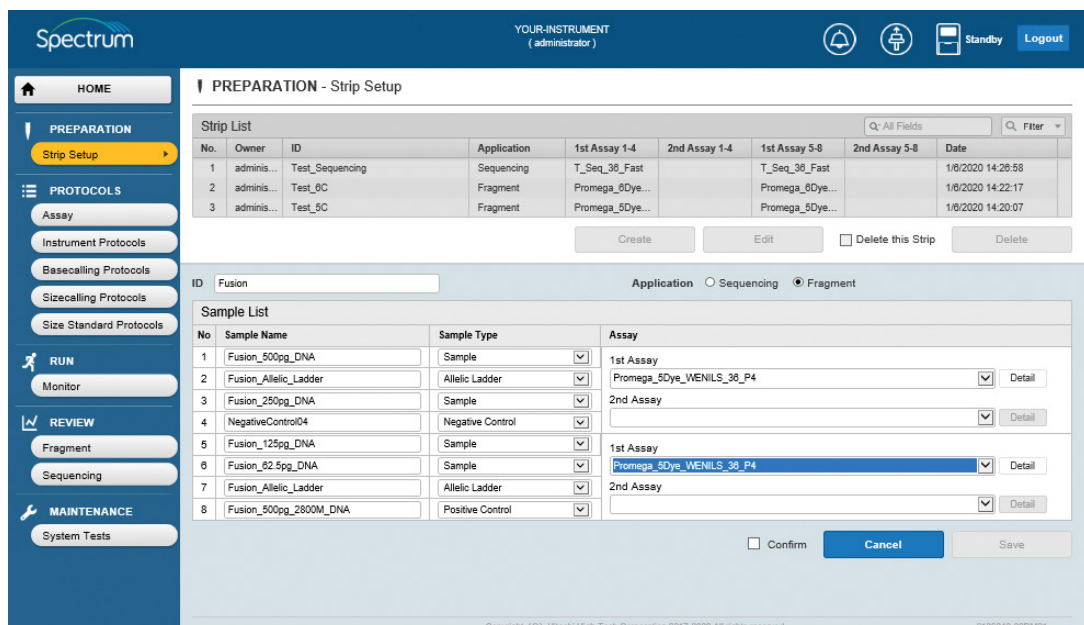
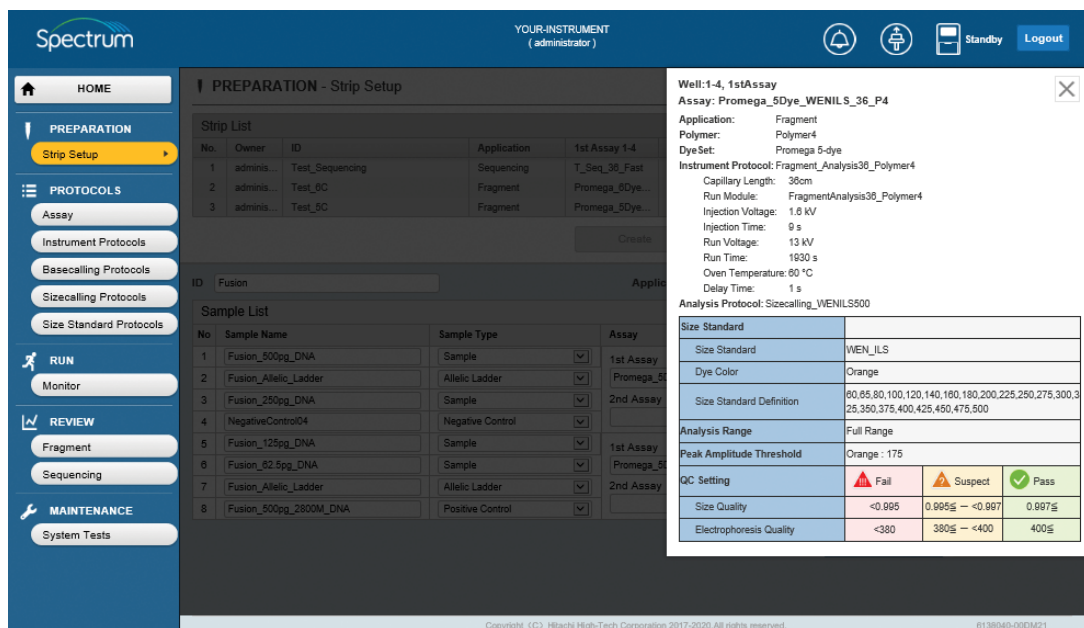

Figure 14. 'Strip Setup' screen: Selecting 1st Assay.
Figure 15. 'Assay Detail' screen.
2. Enter a Strip ID for the new strip by selecting the **ID** field to activate the cursor (Figure 14).
3. Select the application using the appropriate radio button (Sequencing or Fragment) (Figure 14).
4. Select Sample Type (Sample, Positive Control, Negative Control, Allelic Ladder, or Unused) (Figure 14).
5. Input the Sample Names by selecting the **Sample Name** for each well field to activate the cursor (Figure 14).
6. Select the **1st Assay** which will be used for the initial injection using the pulldown menu (Figure 14). Assays are assigned for each set of 4 wells separately (wells 1–4 and wells 5–8).
- You can verify the settings of the assay chosen by selecting **Detail** to the right of the chosen assay (Figure 14). This will display a window showing these settings but will not allow you to edit them (Figure 15). To edit the assay, see Section 5.5.2.
- Input the Sample Names by selecting the **Sample Name** field for each well to activate the cursor (Figure 14).
- Select the **1st Assay** which will be used for the initial injection using the pull-down menu (Figure 14).
13. You can verify the settings of the assay by selecting **Detail** next to the chosen assay (Figure 14). This will display a window showing these settings but will not allow you to edit them (Figure 15). To edit the assay, see Section 5.5.2.